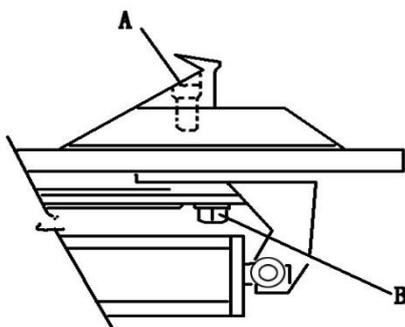

Fig 15
4. Replenish oil by checking the separator. Re-screw tightly Bolt A and B after the first 20 days of use. (Fig. 15)